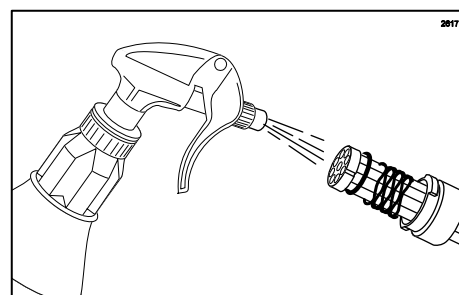

Figure 77
29. Remove the end of the 9-Tube Assembly from the container. Using a spray bottle of approved sanitizer solution, spray end of the assembly and allow it to sanitize for at least 1 minute. (See Figure 77.)